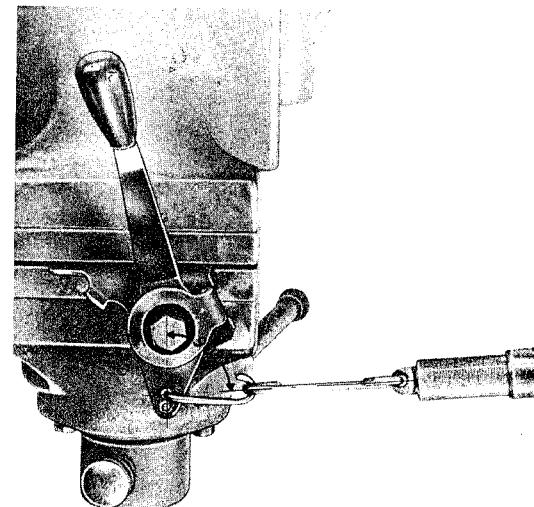

Fig. 5
4. Adjust by testing friction of lever brake, which should be 10 ± 1 kg (22 lbs \pm 2,2 lbs), measured with a spring scale attached to the lever, through the upper hole, at a 90° angle (Fig. 5).